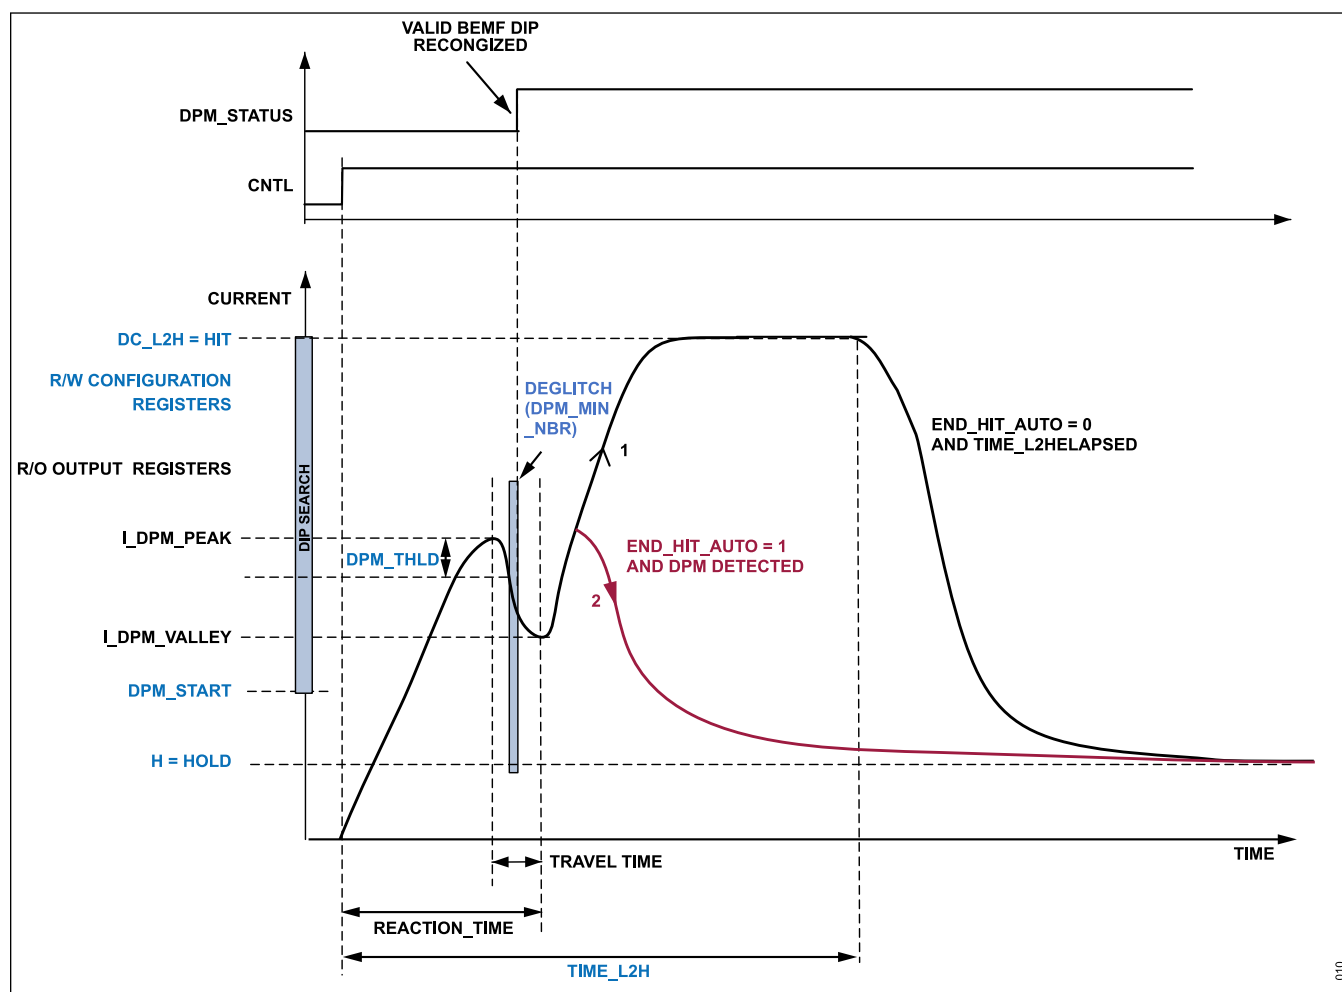

Figure 7. Detection of Plunger Movement
Figure 7 shows the typical current signature of a properly working solenoid valve. The algorithm works on the rising edge of the current only (valve activation). DPM_START and DPM_THLD are current thresholds used to reduce noise and lower false triggers and errors.
With reference to Figure 7,
As shown in Figure 7, the algorithm starts searching for the BEMF dip above a programmable current level given by:
- Set END_HIT_AUTO = "1" to enable the automatic DC_L2H to DC_H switchover once a valid BEMF dip is detected and the current has risen back to the local maximum level (I_DPM_PEAK). This is shown with the red curve in the Figure 7.